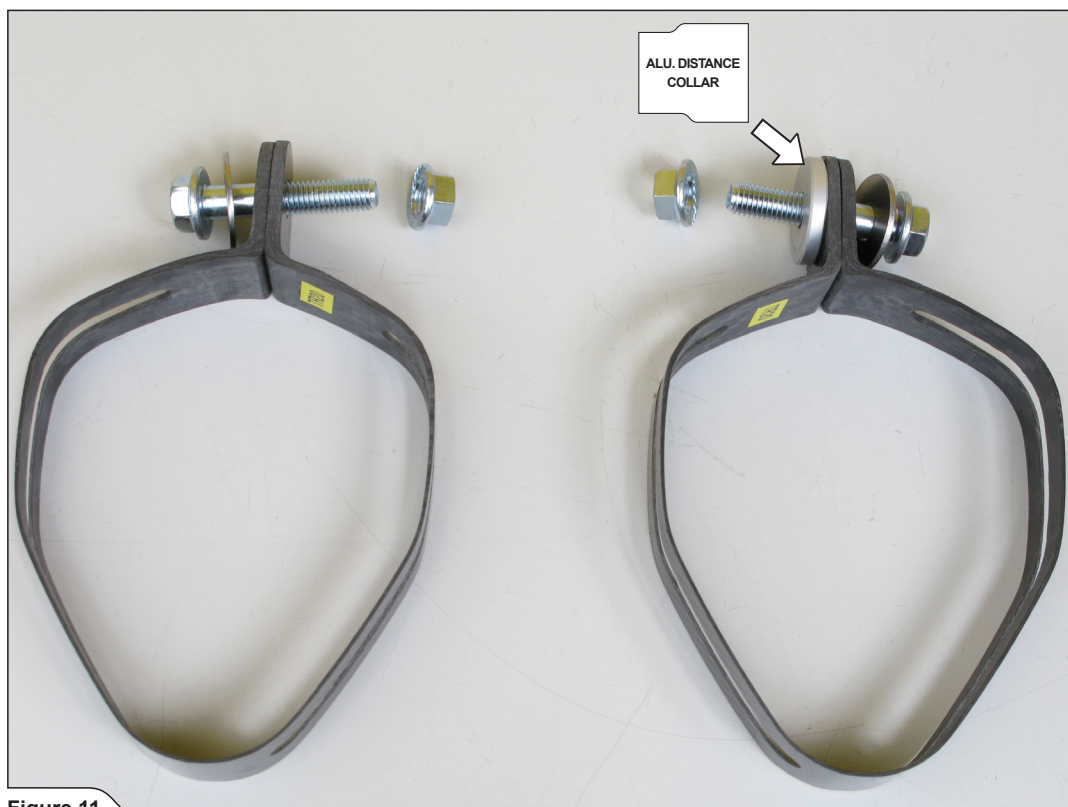

Figure 11
- Slide both assembled mufflers onto the stock collector. Align the mufflers and link pipes in respect to the motorcycle, tighten the mufflers' clamps onto the stock muffler brackets, using bolts, washers, aluminium distance collar and nuts from Akrapovič installation kit (Figure 11, 12, 13, 14).
! CAUTION: make sure that you lay the aluminium distance collar under the right muffler clamp (Figure 11, 13)!